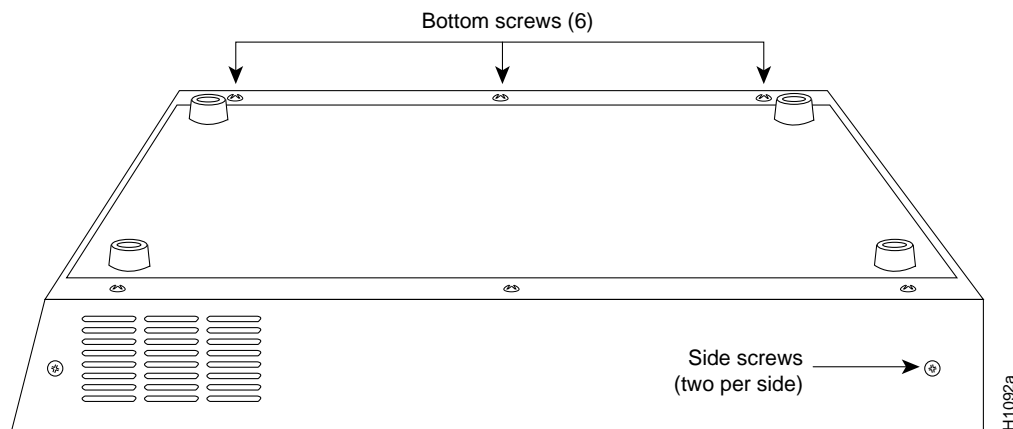

Figure 3 Screw Locations on the C Chassis Exterior
- Step 2** Use the Number 2 Phillips screwdriver to remove the ten screws that secure the cover of the C chassis. There are two screws on each side and six screws on the bottom of the chassis. (See Figure 3.)